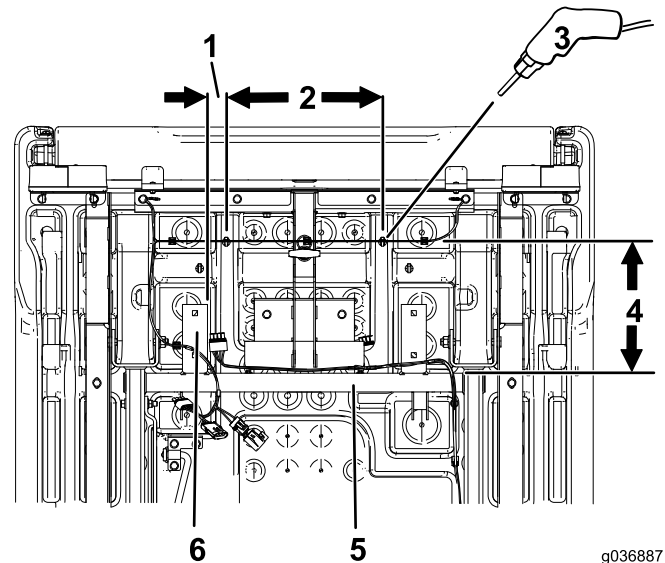

Figure 4
1. Beneath the cargo bed, measure 267 mm (10-1/2 inches) rearward from the edge of the frame cross tube and 38 mm (1-1/2 inches) inward from the edge of the right sway-bar mount, and mark the location (Figure 4).
2. Beneath the cargo bed, measure 267 mm (10-1/2 inches) rearward from the edge of the frame cross tube and 38 mm (1-1/2 inches) inward from the edge of the left sway-bar mount, and mark the location (Figure 4).
3. Drill 2 holes (6.35 mm or 1/4 inch diameter) in the plastic cargo bed (Figure 4).